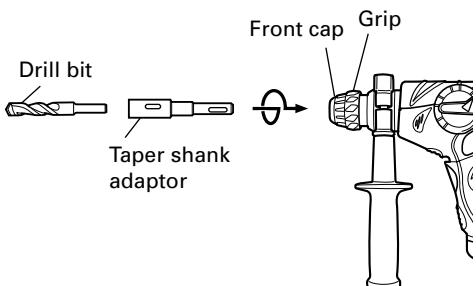
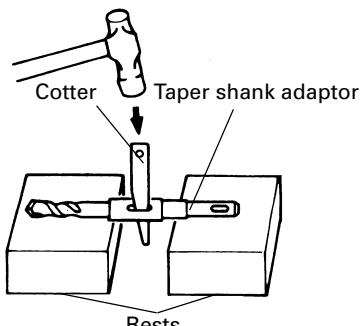

Fig. 12
Fig. 13
(1) Mount the taper shank adaptor to the rotary hammer. (Fig. 12)
(2) Mount the drill bit (taper shank) to the taper shank adaptor. (Fig. 12)
(3) Turn the switch ON, and drill a hole in prescribed depth.
(4) To remove the drill bit (taper shank), insert the cotter into the slot of the taper shank adaptor and strike the head of the cotter with a hammer supporting on the rests. (Fig. 13)